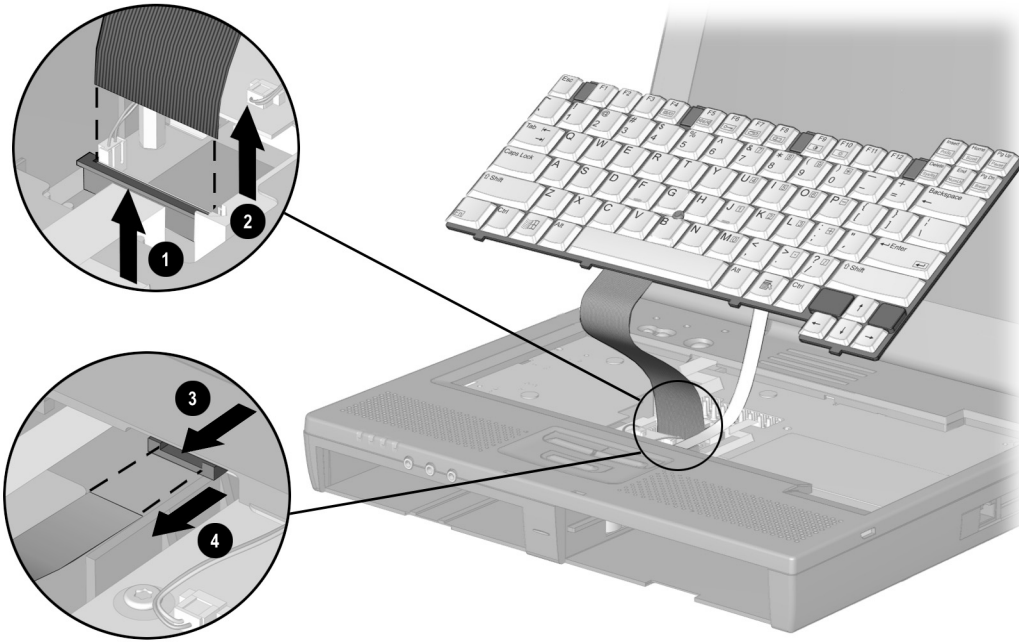

Figure 5-30. *Disconnecting the Keyboard Cables*
8. Release the Zero Insertion Force (ZIF) connector to which the keyboard cable is connected ❶. Disconnect the keyboard cable ❷ (Figure 5-30).
9. Release the ZIF connector to which the pointing device cable is connected ❸ (EasyPoint IV pointing device keyboards only).
10. Disconnect the pointing device cable ❹.